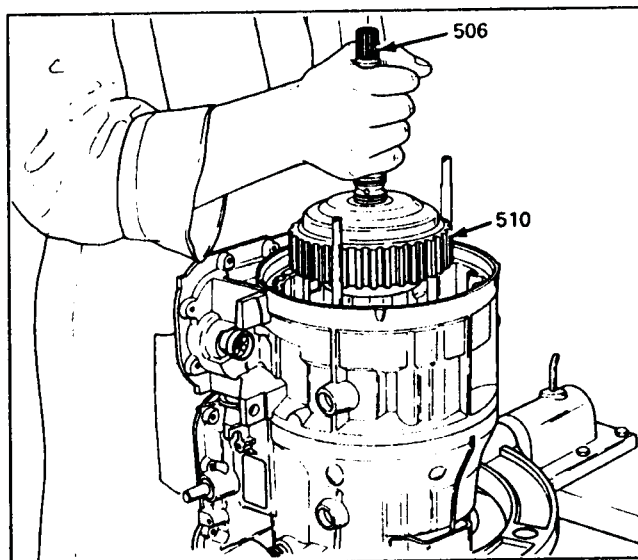

Figure 104
28. Install the pre-assembled overrun clutch housing assembly by grasping the turbine shaft and lowering the assembly into the overdrive internal gear, as shown in Figure 104.